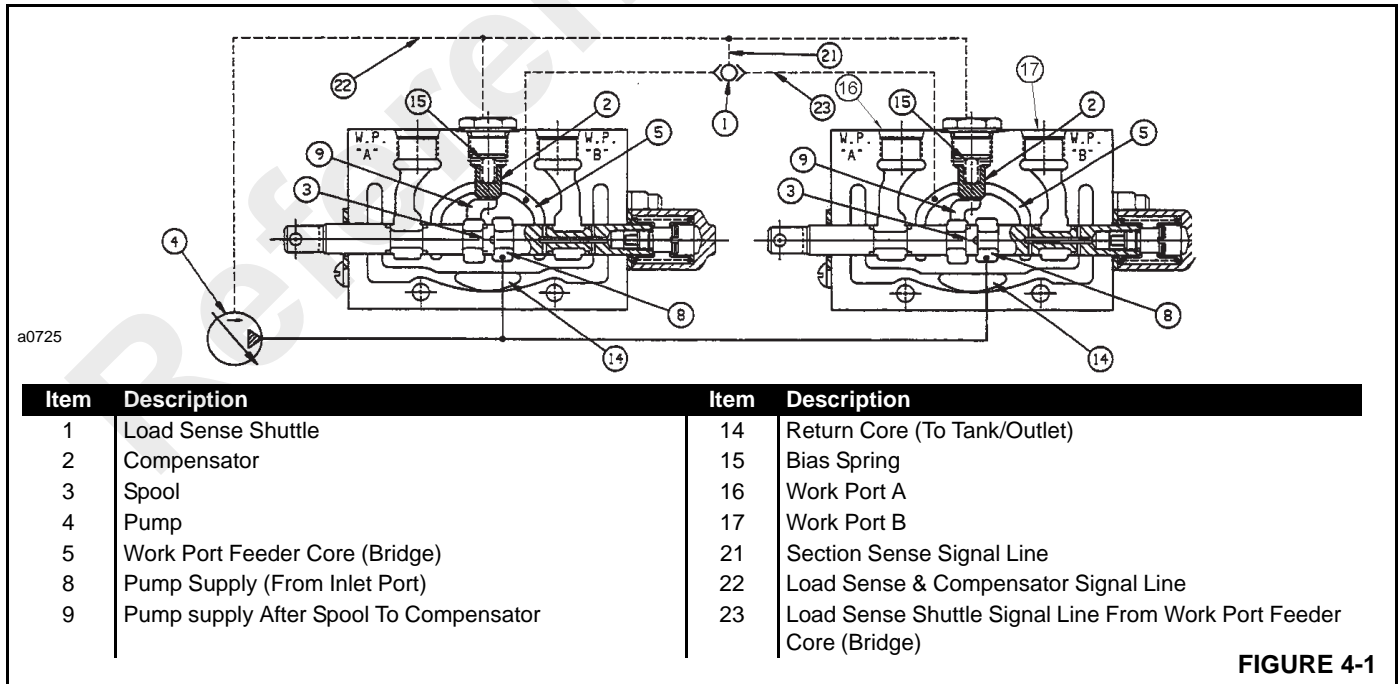

FIGURE 4-1
Figure 4-1 illustrates the interrelationship of the load sense shuttle (1), the compensator (2), the directional spool or variable orifice (3), combined with the variable displacement load sense pump (4).
the return core (14, Figure 4-1) to the outlet port of the inlet/outlet section and then to tank.